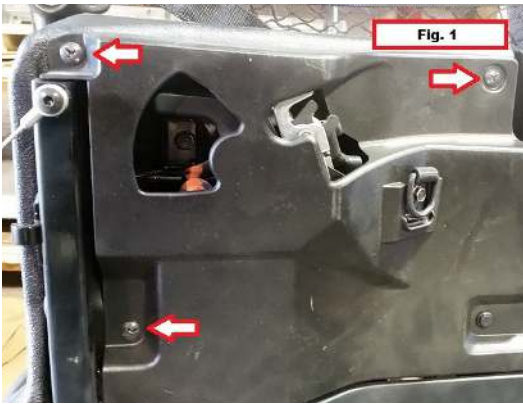

Fig. 1
- 1) Remove three phillips screws from side panels on inside of bed. Fig.1